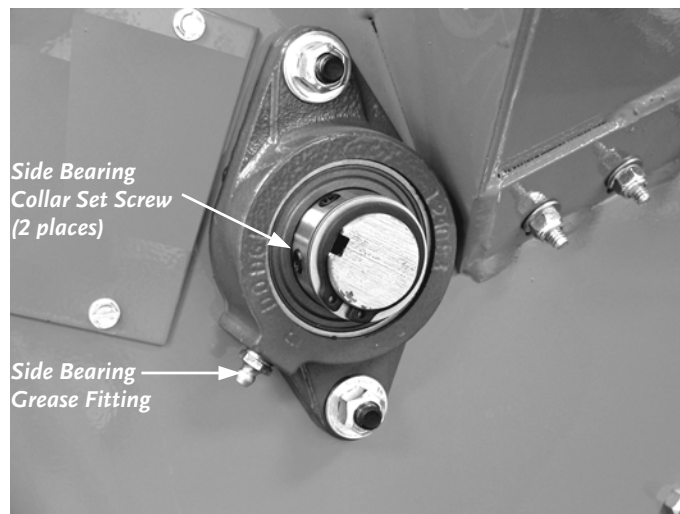

Figure 6
1. Wipe all dirt, etc., from the Grease Fittings with a clean cloth (**Figure 6**).
2. Apply no more than three (3) pumps of quality general-purpose lithium grease with a hand-pumped grease gun to each Grease Fitting, one (1) on the Chipper Side Bearing, and one (1) on the Drive Side Bearing.